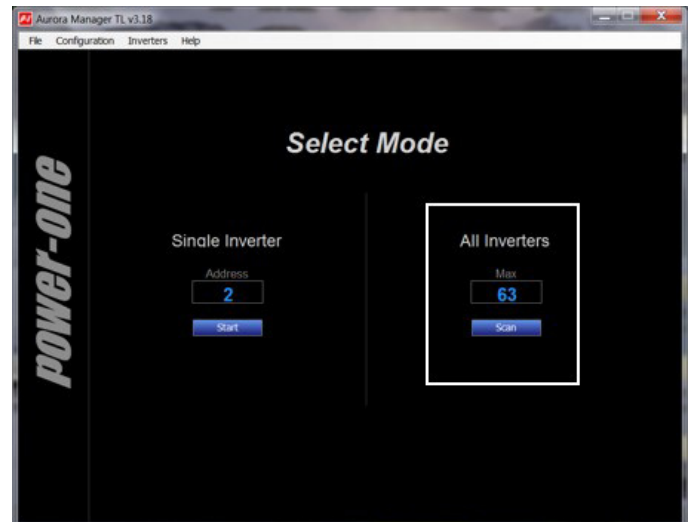

Figure 10 Click “scan” if the address for an inverter in a multiple-inverter system is unknown
- Click “Scan” under the “All Inverters” field. This will produce a listing of all inverters on the RS-485 bus. See Figure 10 below.